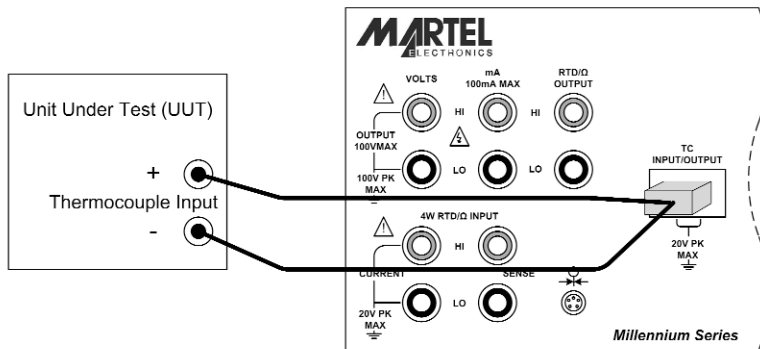

Figure 15 - Thermocouple Output Connection
- e) Connect the unit under test to the thermocouple terminals of the 3001 using a standard T/C miniplug as shown in figure 15. One pin is wider than the other; do not attempt to force the plug in the wrong polarization. The T/C wire used for the connection must match the thermocouple type selected for proper cold junction compensation. If the 3001 and the T/C miniplug are at different temperatures, wait at least 3 minutes for the miniplug and terminals to stabilize to the same temperature.